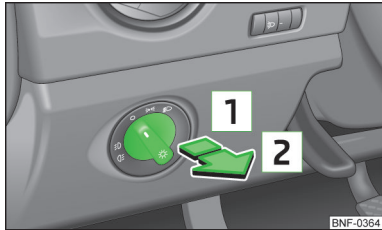

Fig. 37
- > Turn the light switch » Fig. 37 to position, D or R .
- > Turn the light switch » Fig. 37 on page 50 to position, D or R .
- Turn the light switch » Fig. 37 on page 50 to position **0** and lock the vehicle.